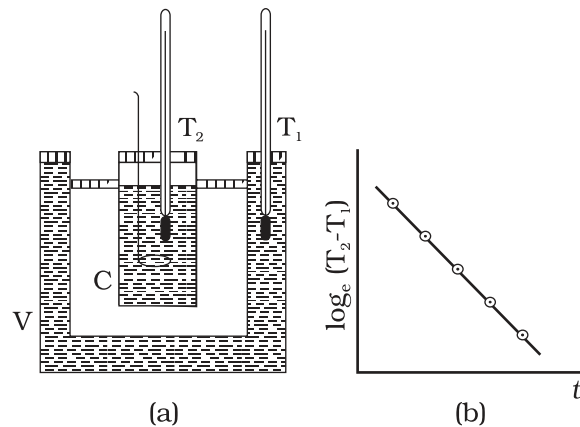

Fig. 11.19 Verification of Newton's Law of cooling.
Newton's law of cooling can be verified with the help of the experimental set-up shown in Fig. 11.19(a). The set-up consists of a double walled vessel (V) containing water in between the two walls. A copper calorimeter (C) containing hot water is placed inside the double walled vessel. Two thermometers through the corks are used to note the temperatures T_2 of water in calorimeter and T_1 of hot water in between the double walls respectively. Temperature of hot water in the calorimeter is noted after equal intervals of time. A graph is plotted between $\log_e (T_2 - T_1)$ and time (t). The nature of the graph is observed to be a straight line having a negative slope as shown in Fig. 11.19(b). This is in support of Eq. (11.18).